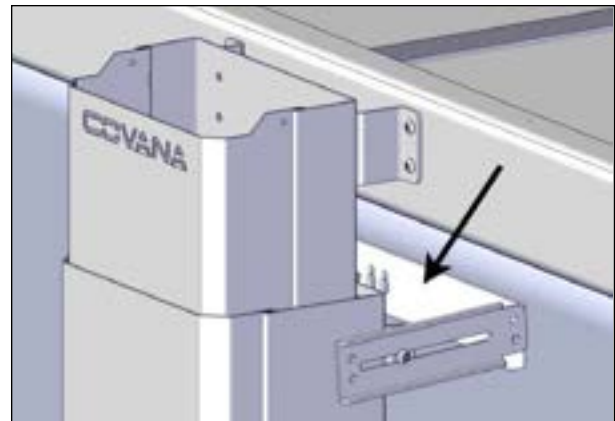

FIGURE 76: TOP TUB MOUNT BRACKET ALIGNMENT
5. With the sleeve and its arms, align the top and the bottom tub mount brackets, see Figure 76. Make sure the brackets will be fixed on a solid spa frame and no soft material between the brackets and the spa frame.